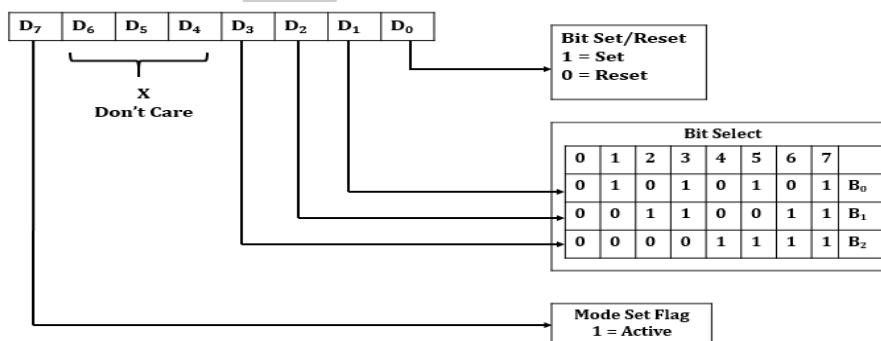

Figure 3.6: Bit pattern of control word in 8255 BSR Mode.
6. Figure 3.6 shows bit pattern for the control word in the BSR Mode.